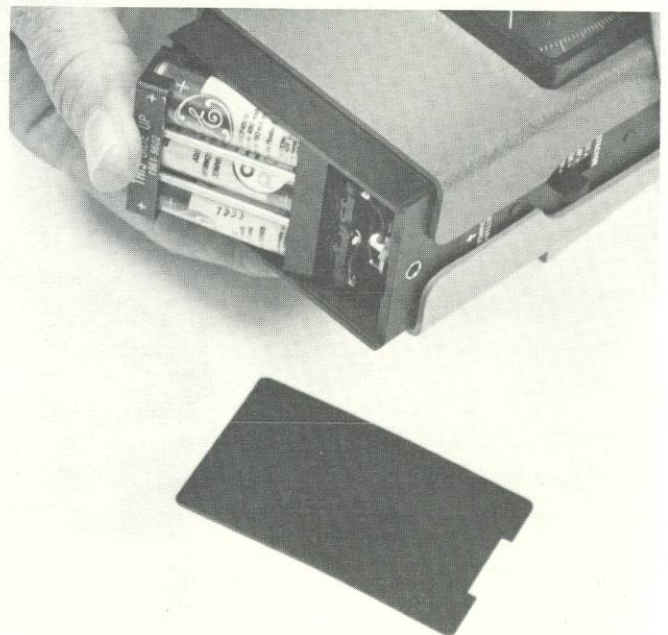

Figure 2-4. Installation of battery pack (1981-2050).
- c. Hold the new battery pack so that the words THIS SIDE UP are exposed, and the "+" signs are at the opposite end from the coiled springs (see Figure 2-4).